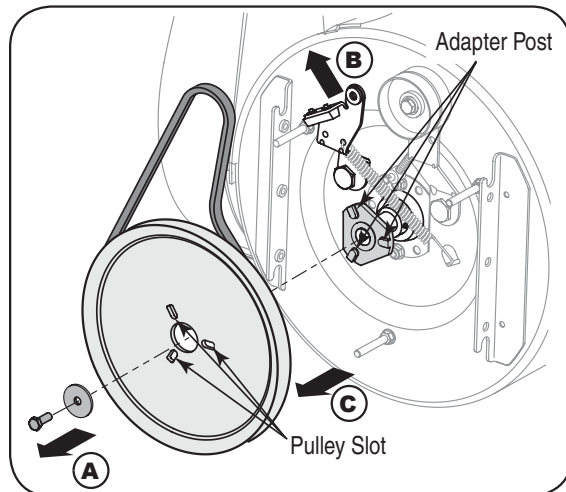

Figure 6-10
- Block the impeller with a piece of wood to prevent it from spinning and use a 1/2" wrench to remove the hex screw and washer from the center of the pulley on the auger housing. See Figure 6-10.
- Lift the brake bracket assembly out of the pulley groove and slide the pulley assembly off the posts of the auger pulley adapter to remove the old belt. Refer to Figure 6-10.
- Turn the pulley as necessary to align its three slots approximately with the posts of the pulley adapter, then move the brake bracket assembly away from the input shaft. While aligning the pulley slots and adapter posts, push the auger pulley fully onto the adapter. Refer to Figure 6-10.
NOTE: If the pulley adapter was removed with the pulley, align the splines of the pulley adapter and auger input shaft, and push the pulley and adapter onto the input shaft. Refer to Figure 6-10.